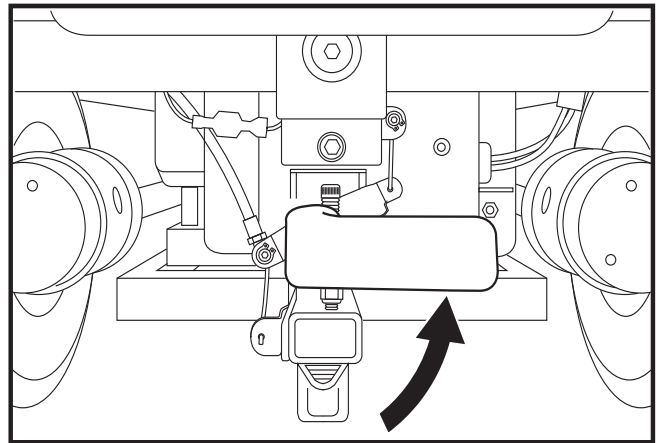

Figure 9. Drive Mode (Drive Engaged)
2. Rotate the manual freewheel lever counterclockwise for drive mode (drive motors engaged). See figure 9.